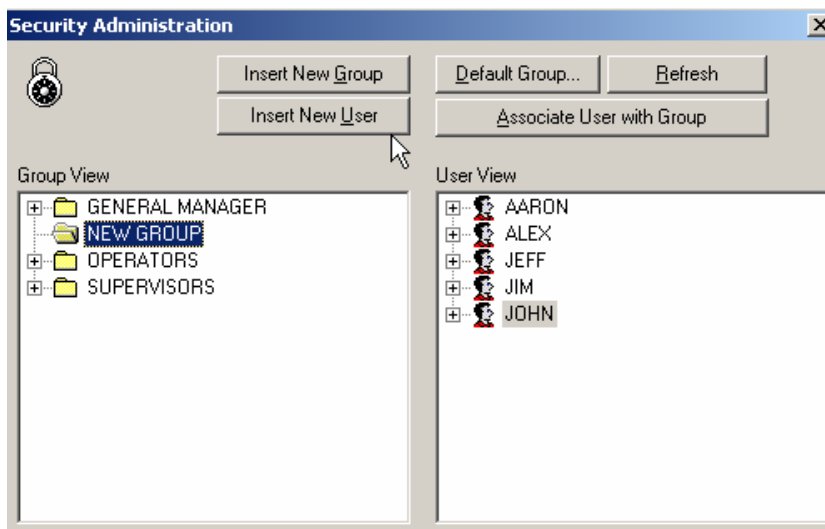

Figure 9.52. Adding a New User Profile
1. Click the **Insert New User** button, as shown in **Figure 9.52**.